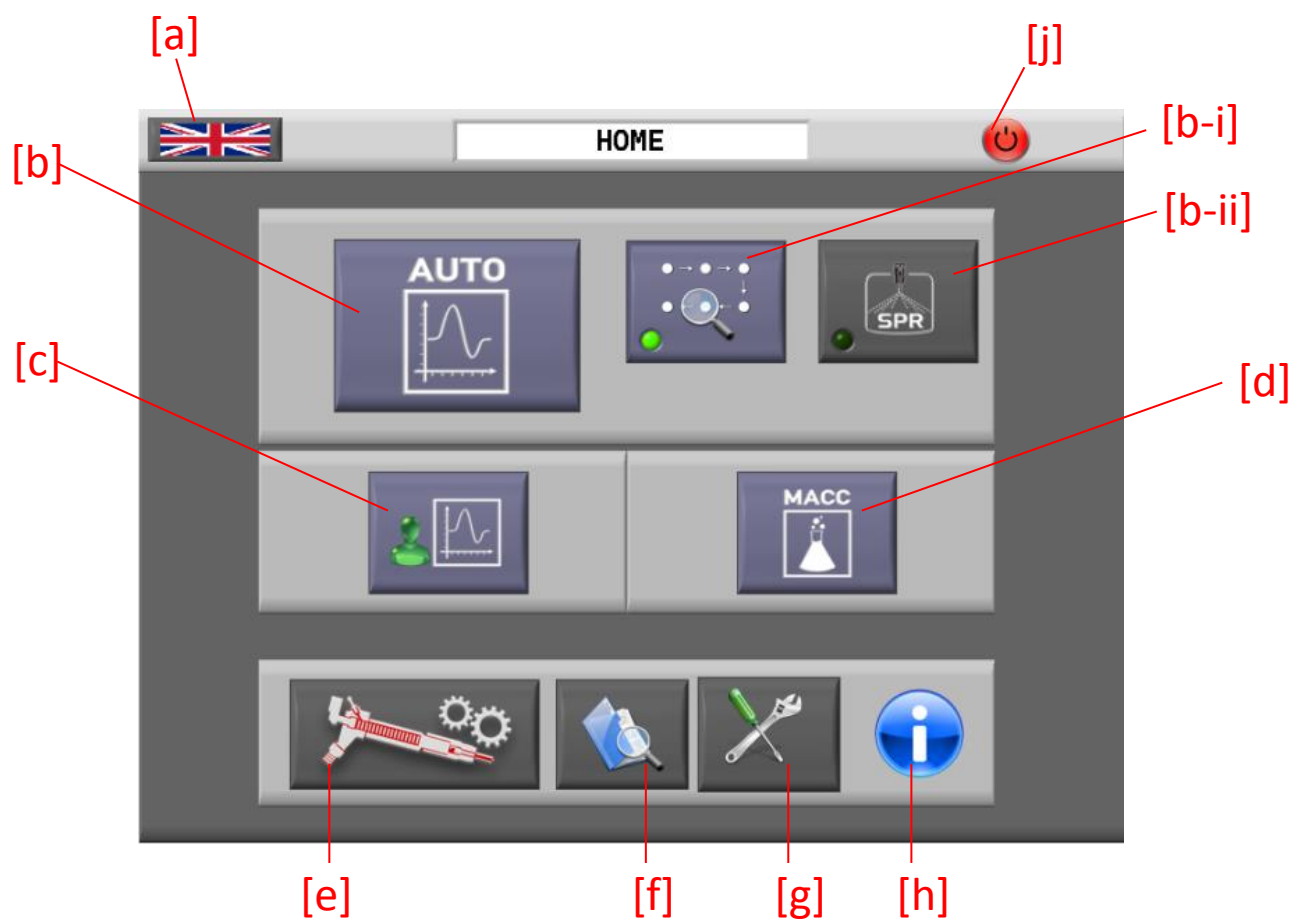

Figure 4-v
- a. Injector preview / selection bar: This bar provides information on the selected injector. If pressed, the injector DB menu will appear (Figure 4-i) providing the user with the capability to select a different DB or Injector.
- b. Database (DB) type selected, Default DB